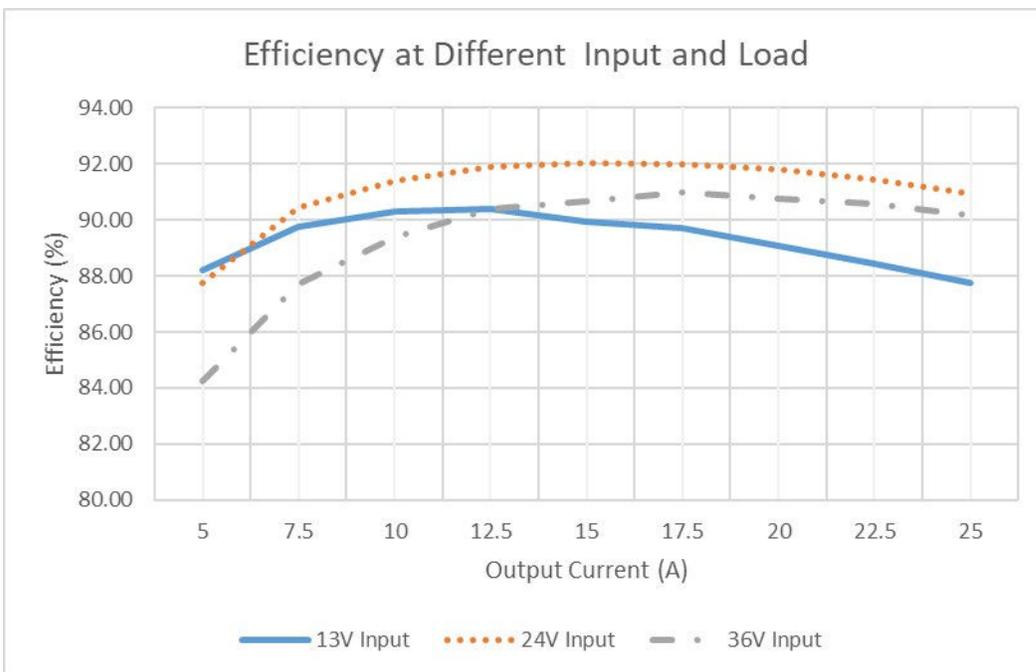

Figure 2.0 Efficiency at Different Input and Load.
- Typical efficiency of 92% (see figure 2.0)
Efficiency	92% See figure 2.0.